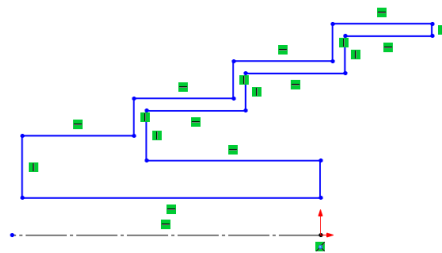

Figure 2-21 Final sketch for Tutorial 2
- Draw the sketch using the **Line** and **Centerline** tools, refer to Figure 2-21.
28. Move the line cursor vertically downward to the start point of the first line. Click when an orange or yellow circle is displayed; the final sketch for Tutorial 2 is created, as shown in Figure 2-21. In this figure, the grid display is turned off for clarity.
The display of relations shown in Figure 2-21, can be turned on or off by choosing the **View Sketch Relations** button from the **View (Heads-Up) > Hide/Show items** flyout.